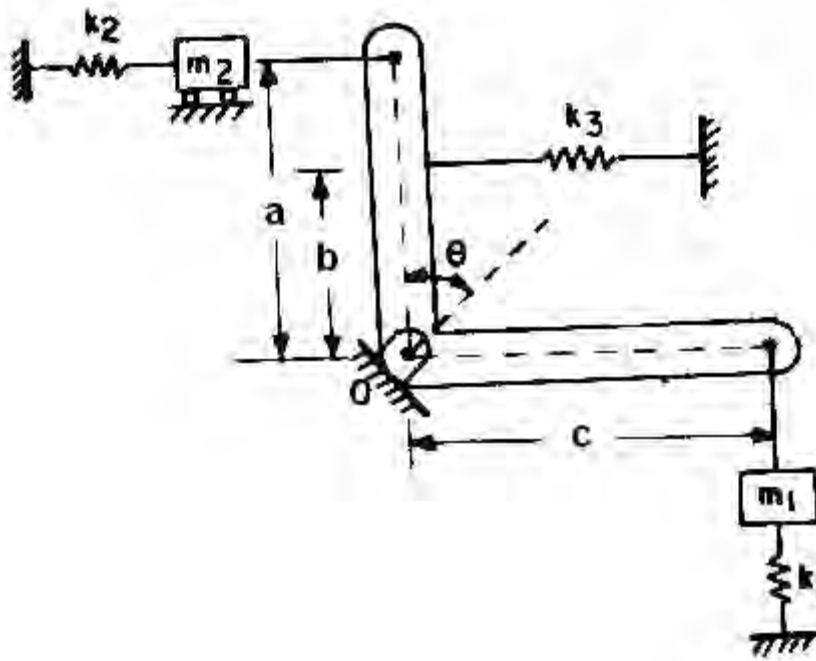

Figure 8:
8. For an indicator mechanism shown in figure 8, the arm pivoted at point O has a mass moment of inertia I. Find the natural frequency of the system. [16]